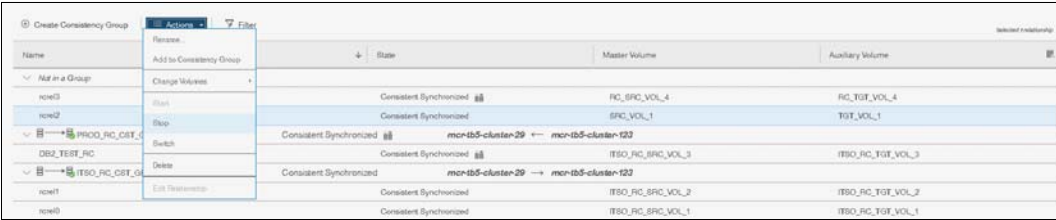

Figure 10-144 Stop action
4. Click **Actions** → **Stop** (as shown in Figure 10-144) to stop the remote copy process.